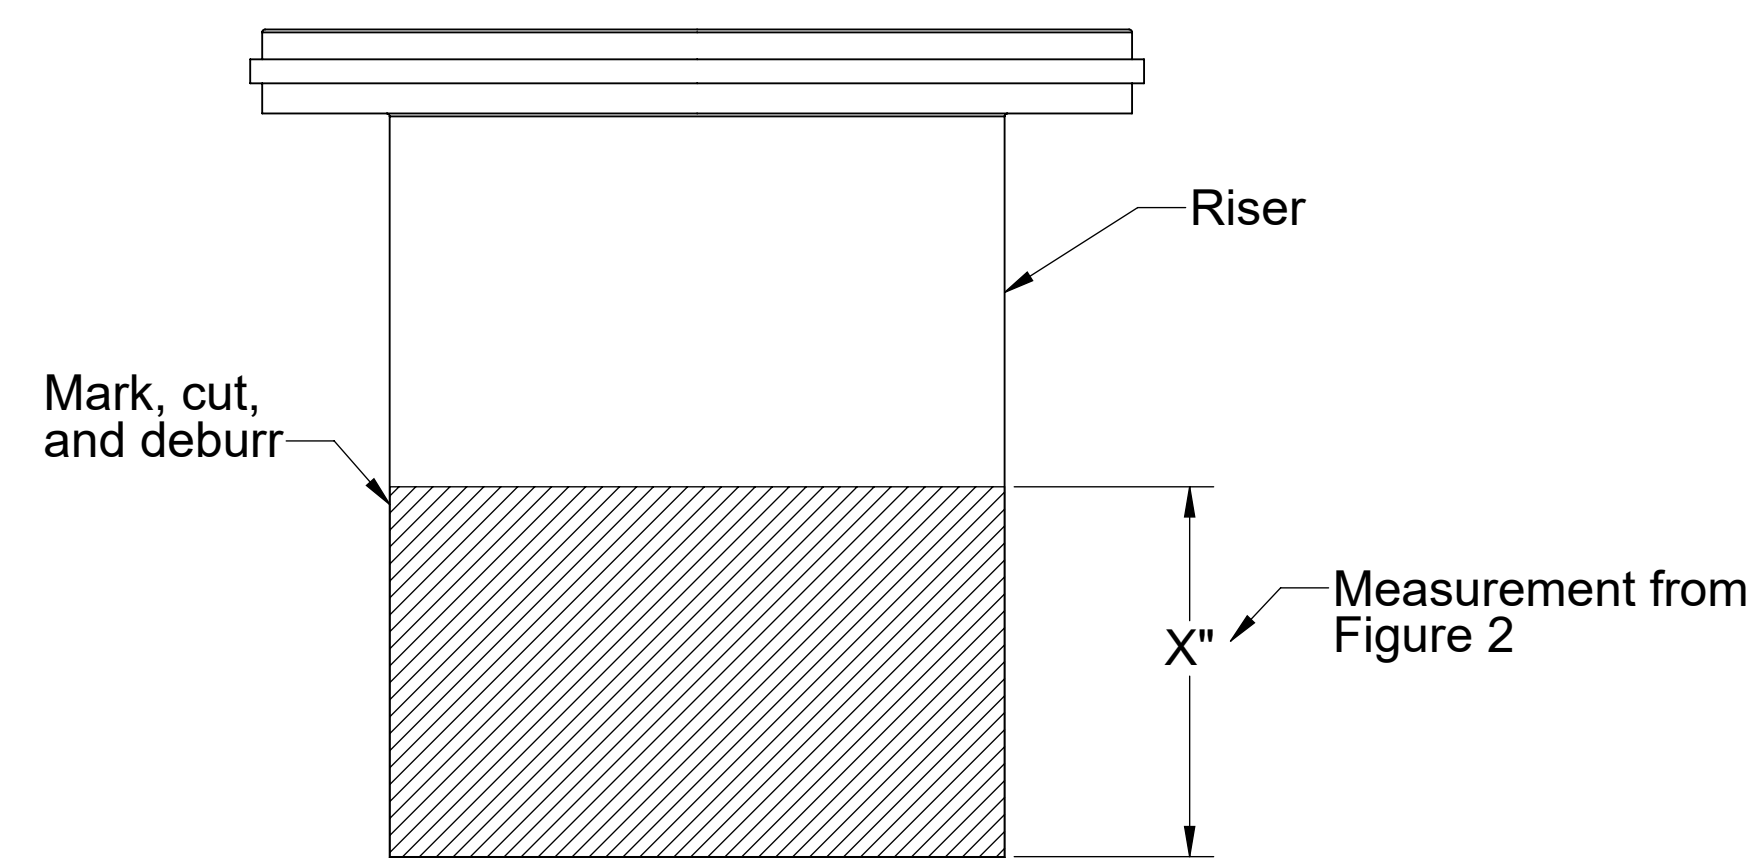

Figure 3
7. Whether the riser needs to be cut or not, make another mark with the grease pencil on the sidewall of the riser a distance of 4 INCHES (3 INCHES for a OS-35 w/ 4" connections) above the edge just cut. If you did not make a cut (meaning your riser height + dimension from step 5 line was beyond the bottom edge of your riser), still mark the sidewall of the riser 4 INCHES above where your riser height + dimension from step 5 line would have been. DO NOT cut this new line. Once the riser is installed into the main unit, this new line will end up at the top of the gasket and will aid in re-assembly. See Figure 3.
6. Remove riser from ring. Take measurement from step 5 from the BOTTOM of the riser upwards towards the top of the riser. Mark a line around the riser, and cut with handsaw, jig saw, or reciprocating saw. Remove debris from cut edge with scraper, utility knife, or gloves. See Figure 3.